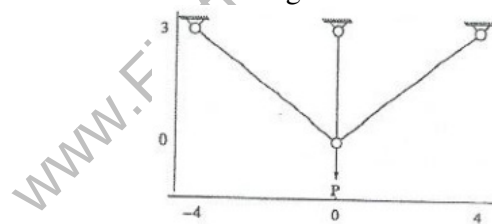

Fig.2
- 3 Taking advantage of symmetry, determine joint displacements and axial forces in the three bar truss shown in fig.2. All members have the same cross sectional area and are of the same material, $A = 0.001 \text{ m}^2$ and $E = 200 \text{ GPa}$. The load $P = 20 \text{ kN}$. The dimensions in meters are shown in the figure. [15M]